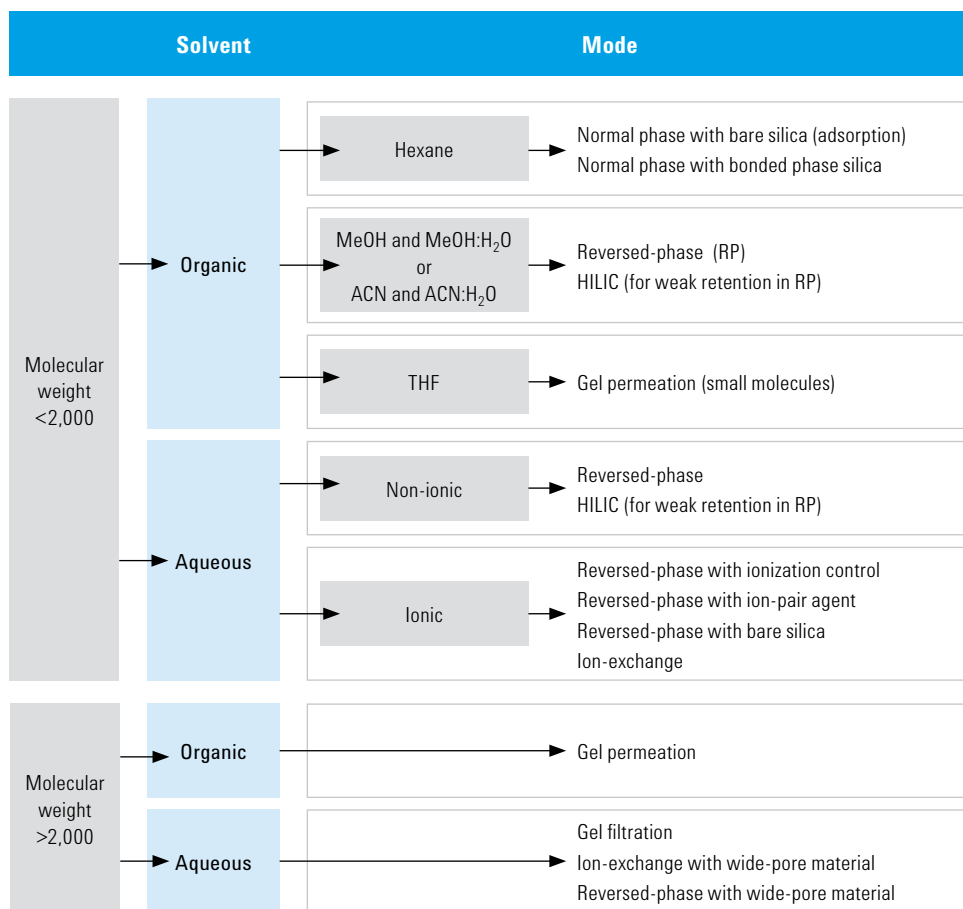

Figure 28. LC and LC/MS column selection by solvent and mode
The first thing you should do is to choose the HPLC mode. The mode is generally decided by the type and solubility of the analyte(s) of interest, its molecular weight (MW), the sample matrix and the availability of the appropriate stationary phase and column. Figures 28 and 29 outline the steps for evaluating the best choice of mode, based on the molecular weight of your compound and the solvents you'll be using.